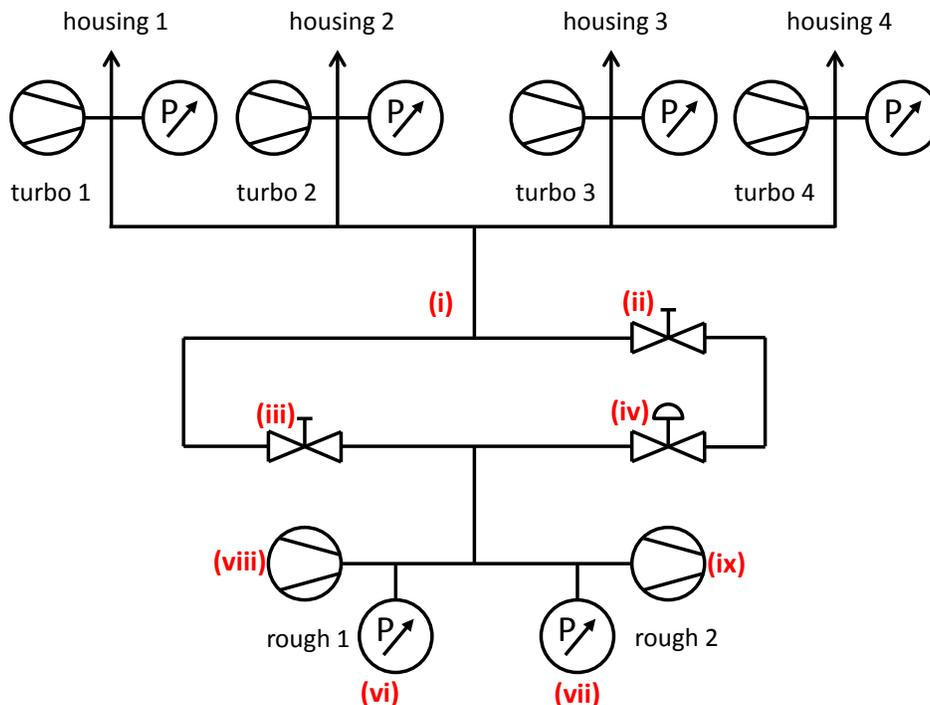

Figure 2. Flow diagram of DCS chopper housing pumping system. Roman numeral labels are defined in Fig. 1.
- 2) Ensure that all TIC displays show the main menu (fig. 2-b) and the appropriate gauges read